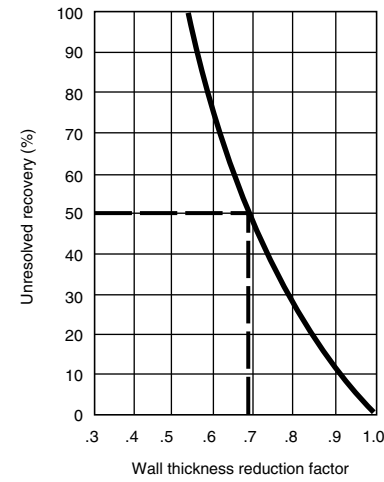

Figure 3.
2. Use the chart in Figure 3 to determine the wall thickness reduction factor.
1. On the Unresolved Recovery scale of the chart in Figure 3 above, find the unresolved recovery value determined in Step 1.
Wall thickness reduction factor (from Figure 3) = 0.68